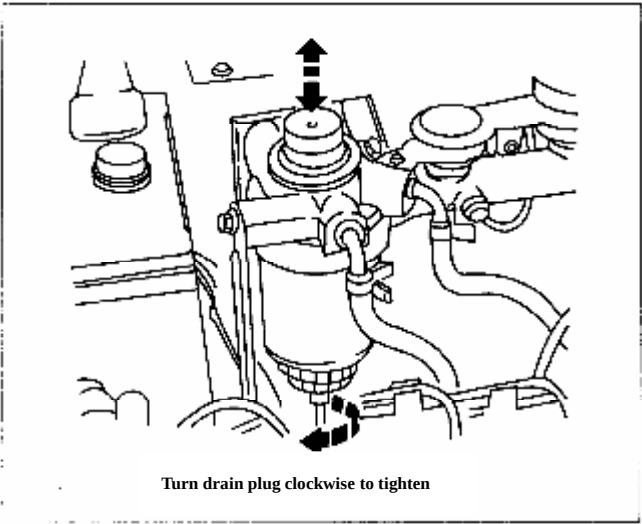

Figure 5-7 Check after draining
- (4) After water has been drained, tighten drain plug clockwise, then press hand pump up and down several times (see fig.5-7).